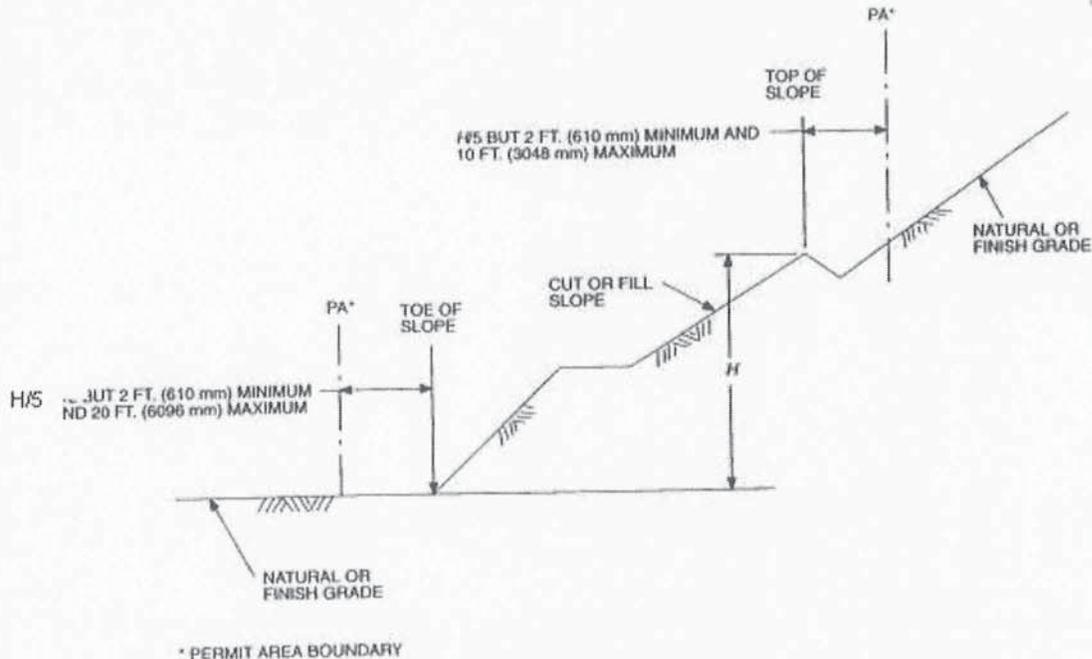

FIGURE A-33-1—SETBACK DIMENSIONS
- A. Cut and fill slopes shall be set back from site boundaries in accordance with this section. Setback dimensions shall be horizontal distances measured perpendicular to the site boundary. Setback dimensions shall be as shown in Figure A-33-1.